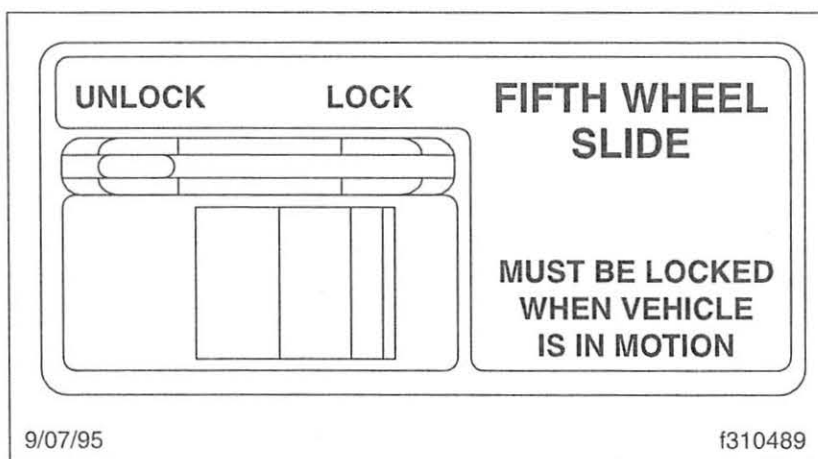

Fig. 10.6, Cab Control, Fifth Wheel Slide
- 2.1 For air-operated models, set the cab-operated control switch (**Fig. 10.6**) to UNLOCK.